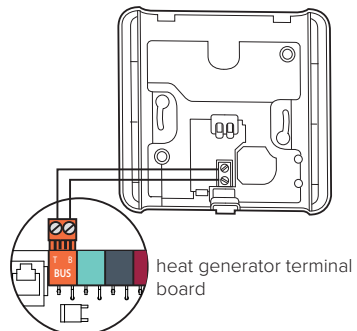

Fig. 13
- Connect the thermostat wire to the BUS terminal on the heat generator's terminal board (Fig. 13).